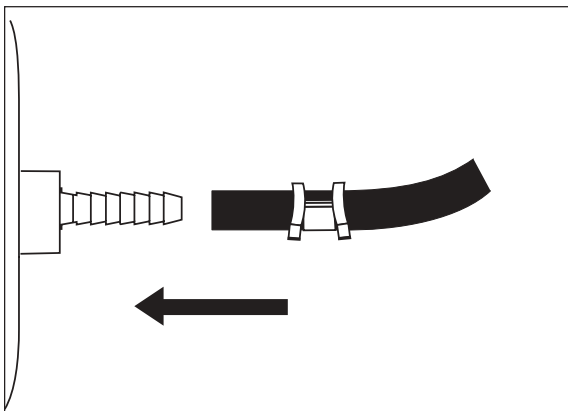

Figure 5
- g. Push the air line onto the stem of the air spring, covering all the barbs (Figure 5). With pliers slide the air line clamp upward until it fully covers the barbed section.
- d. Push the air line onto the stem of the air spring, covering all the barbed section. With pliers slide the air line clamp forward until it fully covers barbed section (Figure 5).